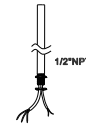

Figure 13
1. Unscrew the nut on a 1/2"NPT (Figure 13).